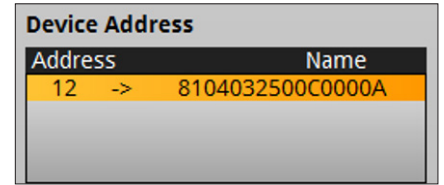

Figure 16. New ECU Name.
- Set the Device Address to 12 and check the "Arbitrary Address" box. Select OK to close the dialogue box. A new ECU name will be displayed (see Figure 16).